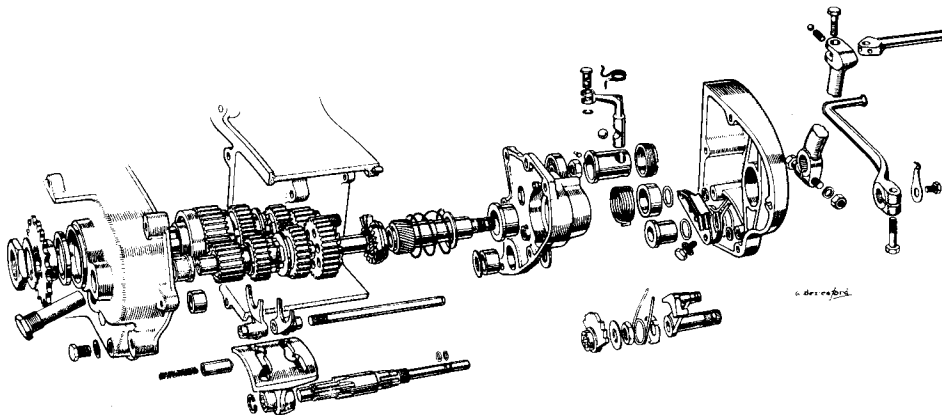

FIG. 41 Exploded view of Gearbox, Engines before 106838
- The assembly sequence is shown in fig. 41 start by: